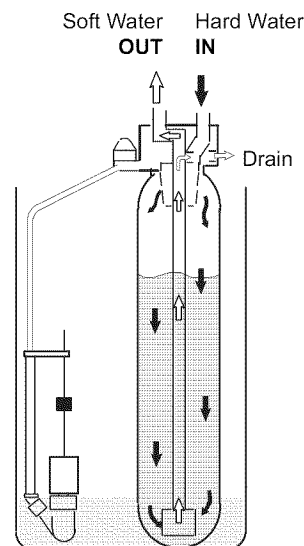

FIG. 45
**FAST RINSE:** Backwash is followed by a fast flow of water down through the resin tank. The fast flow packs the resin bed and gets it ready for return to service. See Fig. 45.